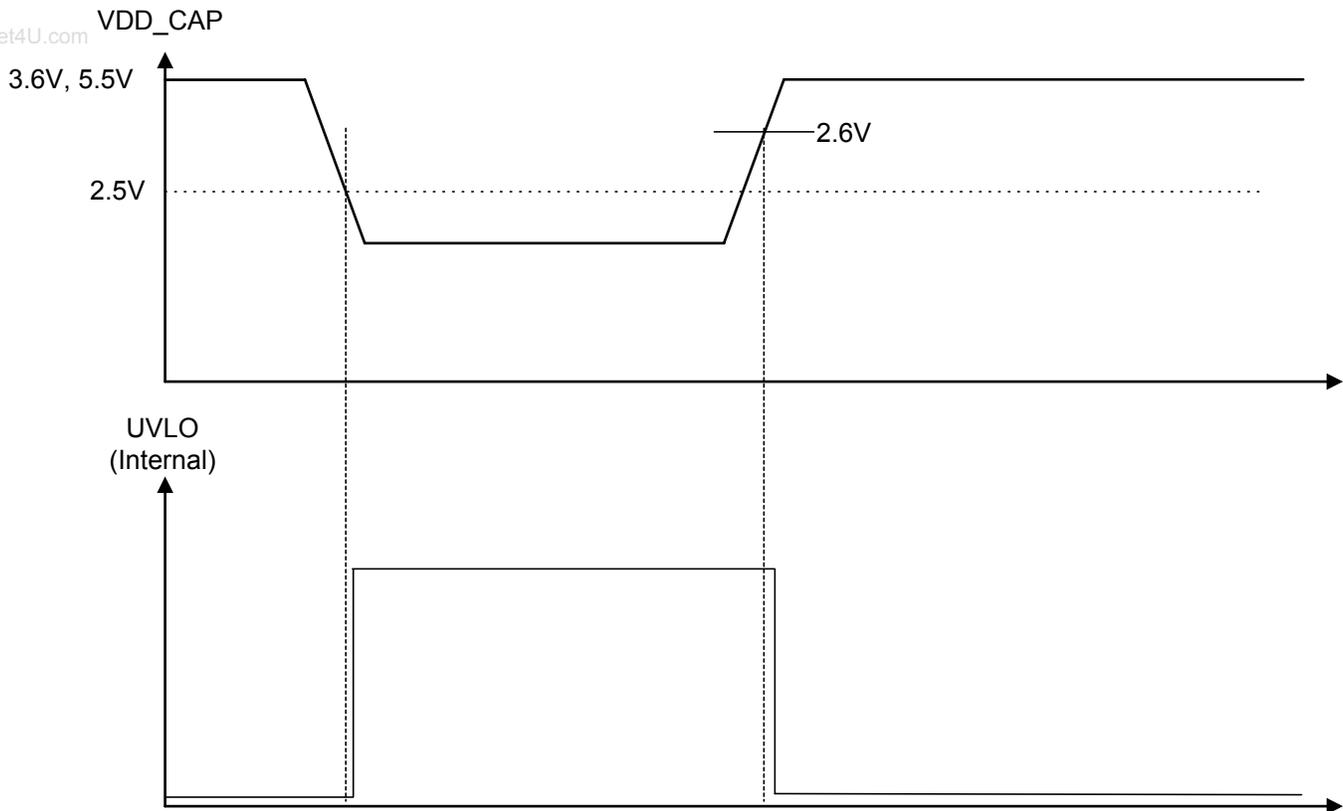

Figure 10 - Timing Sequence recovering from a VDD\_CAP Power 'Brown-Out'
2.5V (Figure 10), an internal undervoltage lockout (UVLO) circuit will reset all internal logic. Once power has recovered above 2.6V the SMM766 will restart as if a Command-Triggered power-off had been issued.